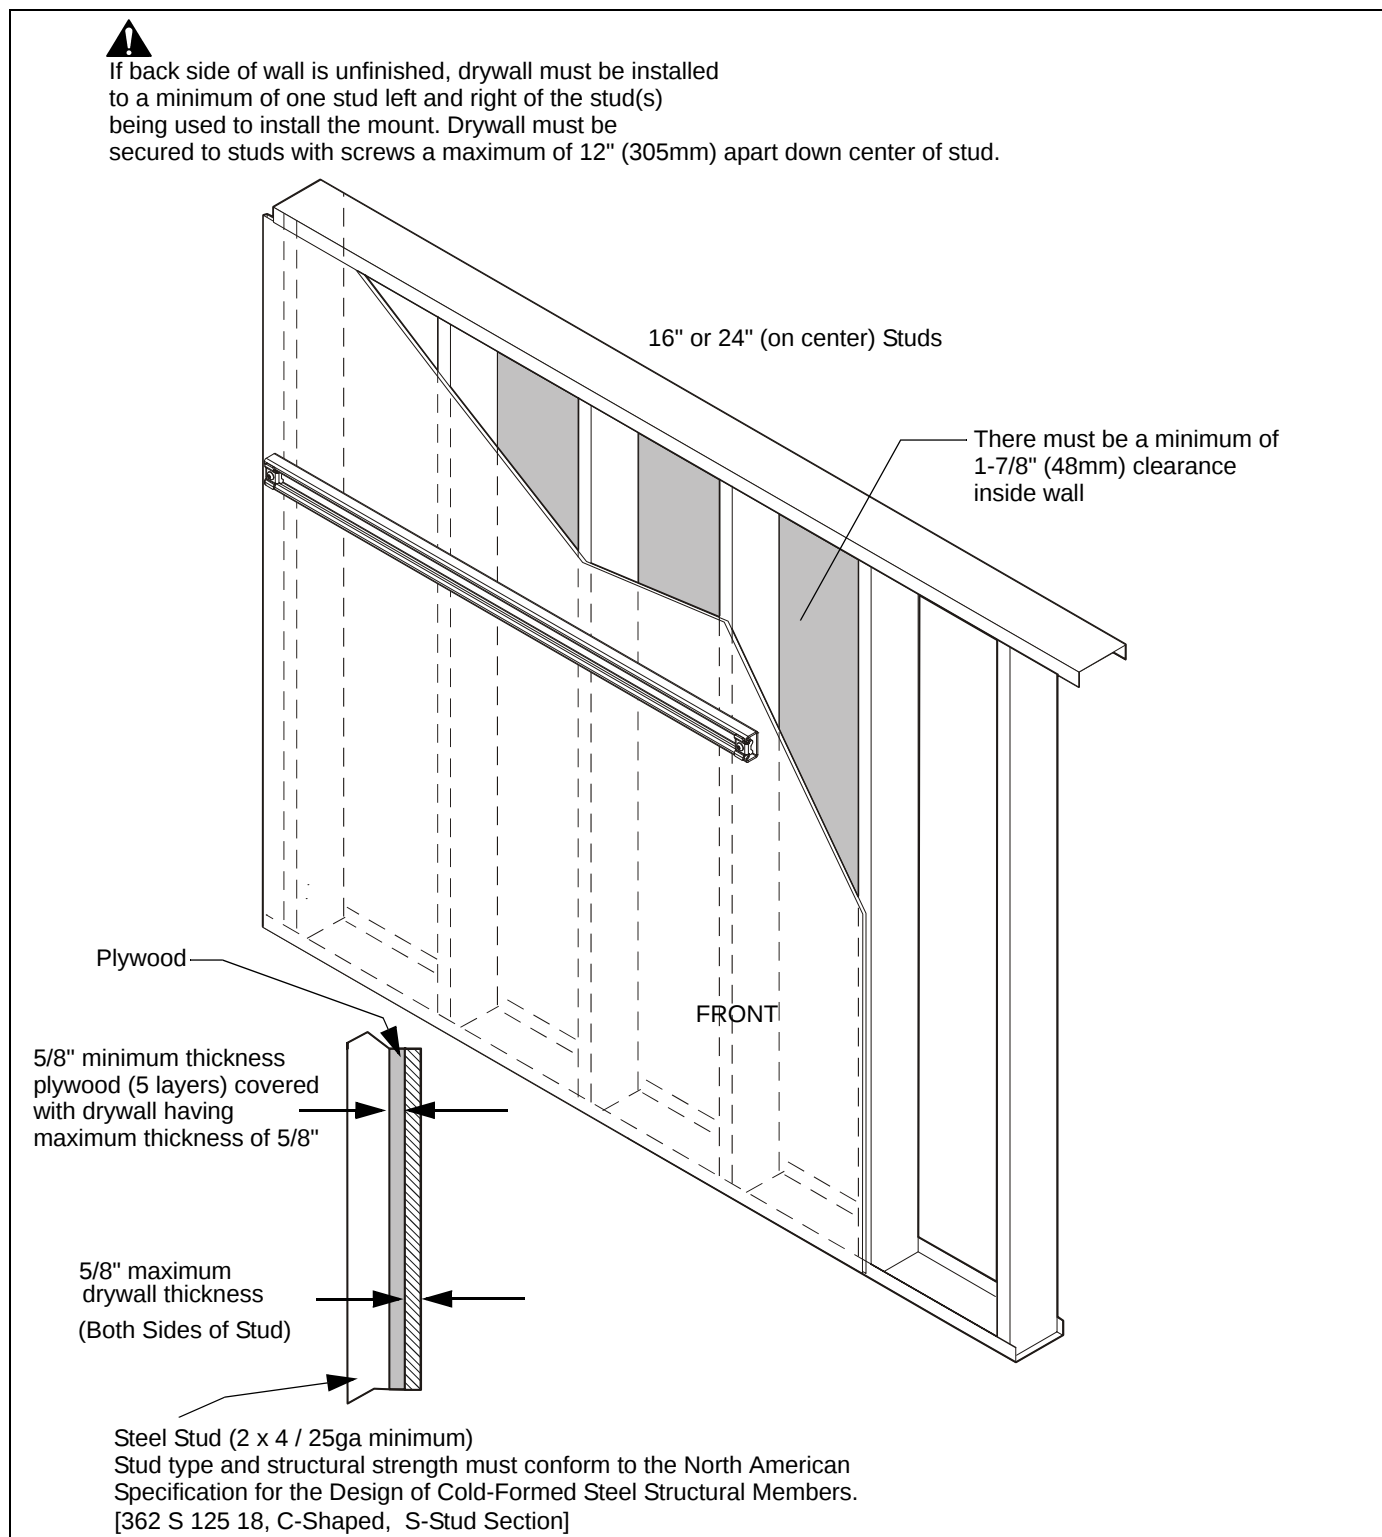

Figure 23
1. Use one #14 x 1-1/2" hex-head washer slot head screw (N) and one 1/4" washer (M) through strut channel or rail. (See Figure 23)